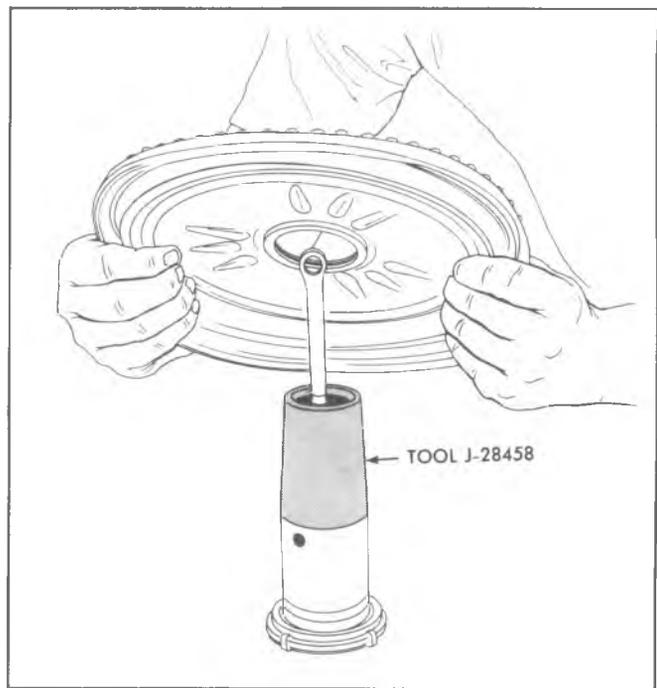

Fig. 5-6A--Installing Secondary Diaphragm and Support Plate Assembly
piston (fig. 5-6A).
17. With assembly Tool J-28458 mounted on the power piston, place the secondary diaphragm and support plate assembly over the power piston (see Figure 5-6A) and push